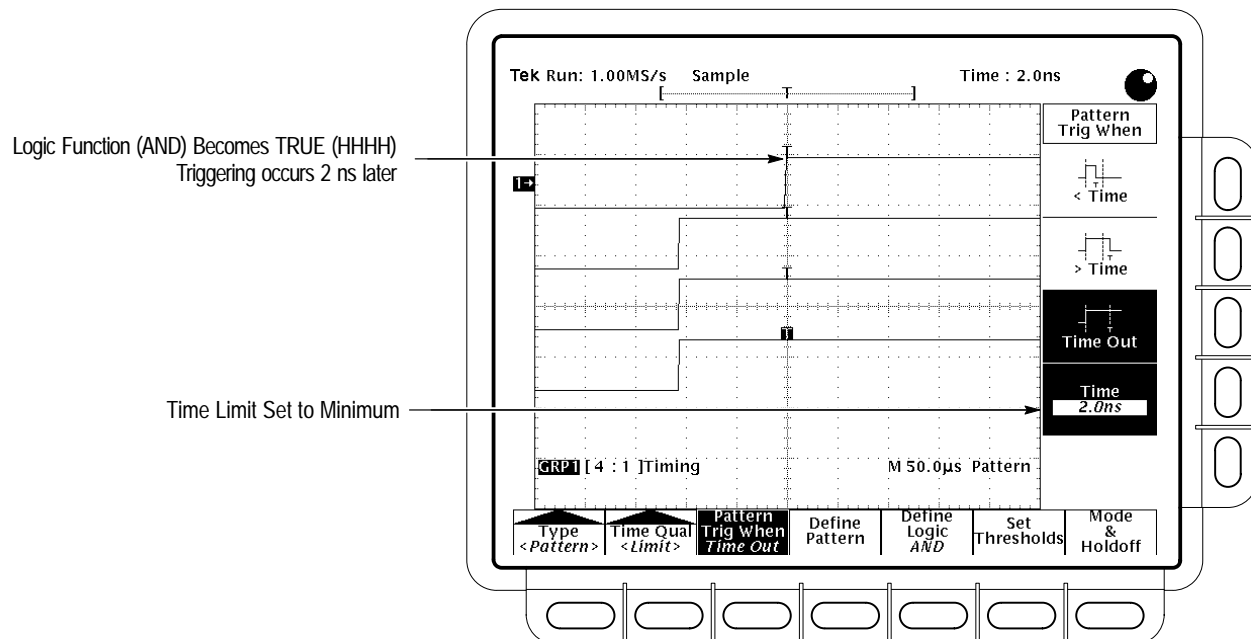
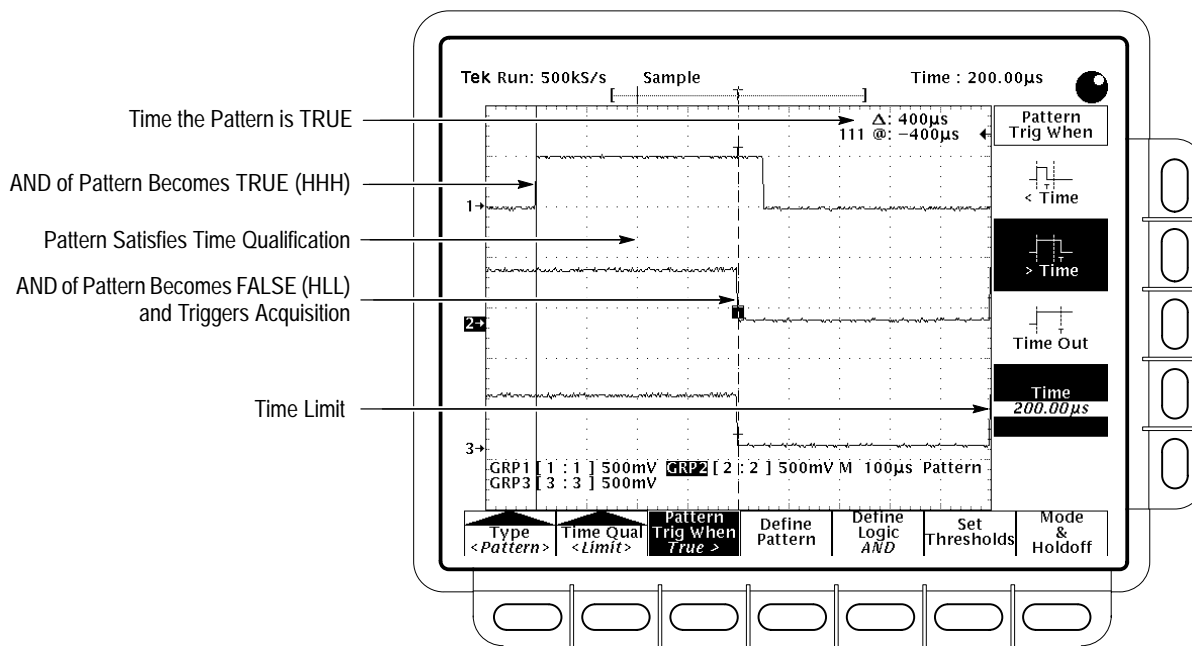

Figure 3-64: Triggering on a Pattern: *Time Out* Qualified
Figure 3-65: Time-Qualified Pattern Triggering: **> Time**
*To Trigger Immediately on a Pattern*, which begins on page 3–137, demonstrates how to use the time-limit qualifier Time Out to provide triggering on a TRUE pattern. Figure 3-64 on page 3–137 locates the trigger point for this type of time-qualified pattern trigger.
*To Trigger on a Time-Limit Qualified Pattern*, which begins on page 3–138, demonstrates how to use the time qualifiers > Time and < Time. Figure 3-65 on page 3–138 locates the trigger point for an example of these types of pattern triggers.
Triggering will occur when the inputs compare TRUE and the minimum time limit expires. Figure 3-64 shows a pattern comprising four inputs that is time qualified to trigger as soon as possible after the pattern is recognized. (Compare with Figure 3-65 on page 3–138 which shows >Time time qualification.)
Figure 3-65 shows an example of **> Time** qualification. In this case, the Boolean requirement for the three-input pattern is defined by the AND logic chosen. The inputs shown, Ch 1 – Ch 3, must match their defined, all HIGH (HHH), a period exceeding the time limit set, 200  $\mu$ s.
Figure 3-65 illustrates the principle that all time qualifiers, except Time Out, wait until *after the pattern comparison fails (becomes FALSE)* to trigger. (Compare to Figure 3-64 on page 3–137, which shows Time Out qualification.) Examine Figure 3-65 and note the following points.